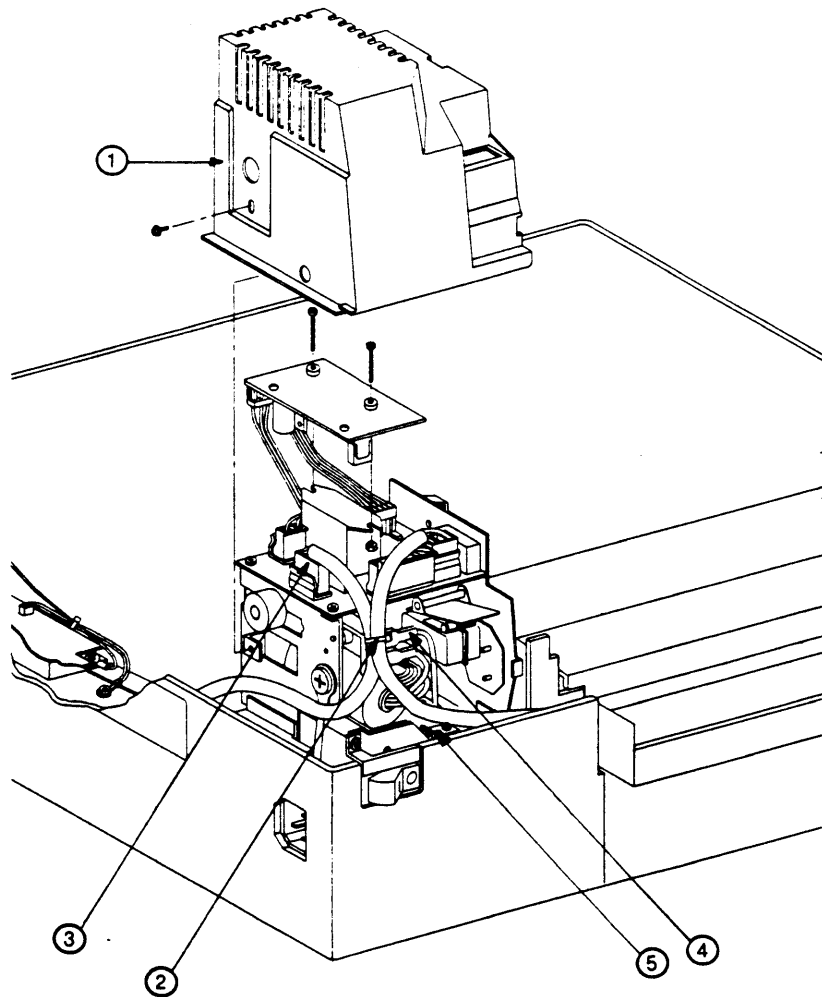

FIGURE 2-39
7. Open the printer and remove the power interlock assembly cover (Figure 2-39, #1).
8. Clip the cable tie that holds the three large cables together (Figure 2-39, #2).
9. Unplug the large black cable from J103 (Figure 2-39, #3). (You may need to pry it up with a screwdriver blade.)
10. Above the power switch you will find four black wires that attach by spade connectors to the power interlock assembly (Figure 2-39, #4). Disconnect the two upper wires.
11. Remove the screw and wedge at the base of the power interlock assembly (Figure 2-39, #5).